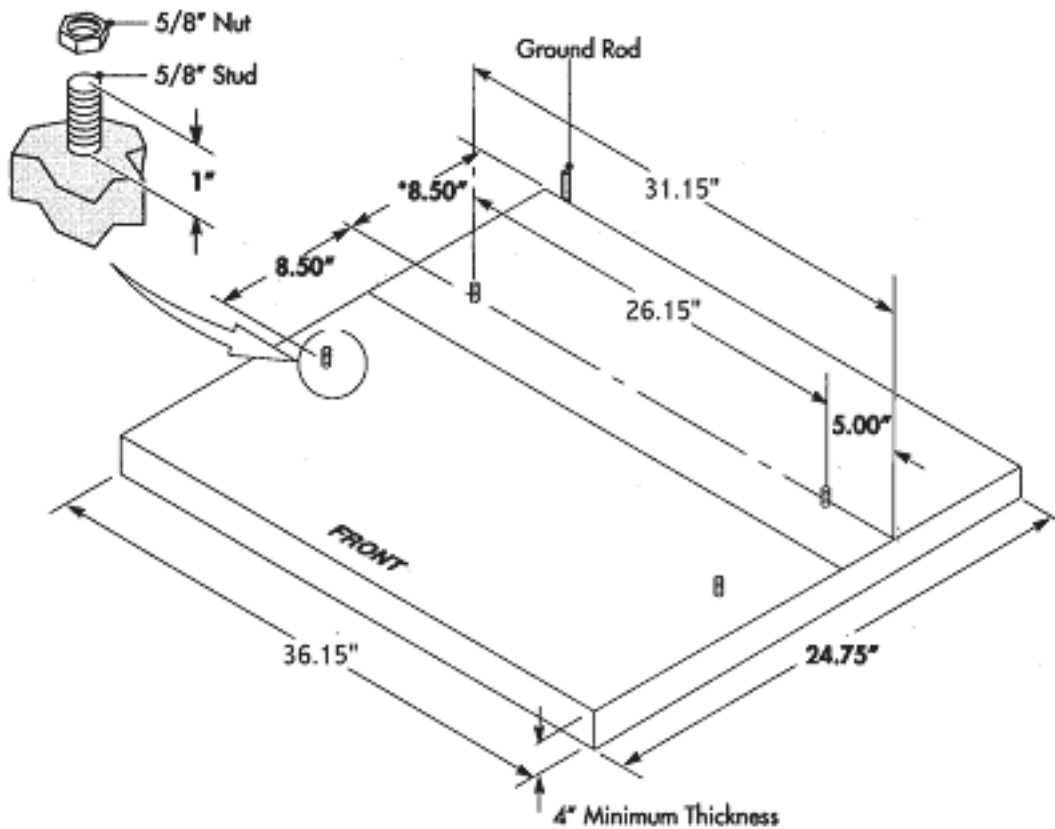

Fig. 2-2, Pad Dimensions
1. Select an appropriate site. Check with other local utilities for buried plant before site location is finalized. Remove the turf and level an area of approximately 4" greater than the footprint of the CPR™ cabinet. Refer to Figure 2-2 for details.
4. Install appropriate size conduit for the output connections and turn a stub up to extend 1" above the pad surface cast into the concrete. Make sure to match conduit locations with the appropriate cabinet locations; these locations are indicated in Figure 2-2.
5. Using appropriately sized lumber, construct a form for the cement pad (refer to Figure 2-2 for dimensions). Anchor the form securely to the ground. If a pre-formed pad is utilized for the mounting of the CPR cabinet, check the bolt patterns for proper alignment before anchoring the pad to the ground.